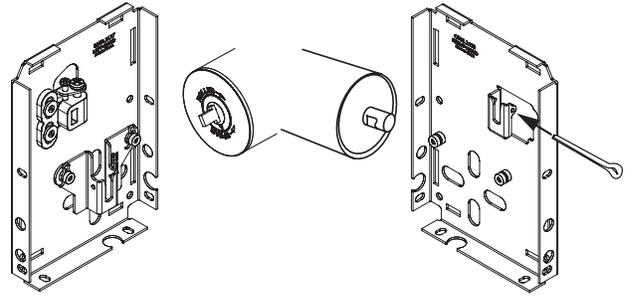

Figure 7
- 12) Slide the fabric roller assembly into the brackets, spear-end first (see Fig. 7). The triangular shaped arrow on the end of the device MUST now be pointed up away from the ground when installed (see Fig 5a). Pointing the arrow upward will insure that the mechanism will not "lock" during operation. Raising the hem-bar about 1/4-turn will "un-lock" the device, providing constant tension on the fabric panel. Insure that the hem-bar cannot move (counterclockwise) around the roller until the installation is complete.
- 13) Install the  $\frac{3}{32}$ " diameter x  $\frac{7}{8}$ " long cotter pin through the fabric roller idler bracket to secure the roller (see Fig. 7). Bend one leg of the cotter pin down to lock it into place.